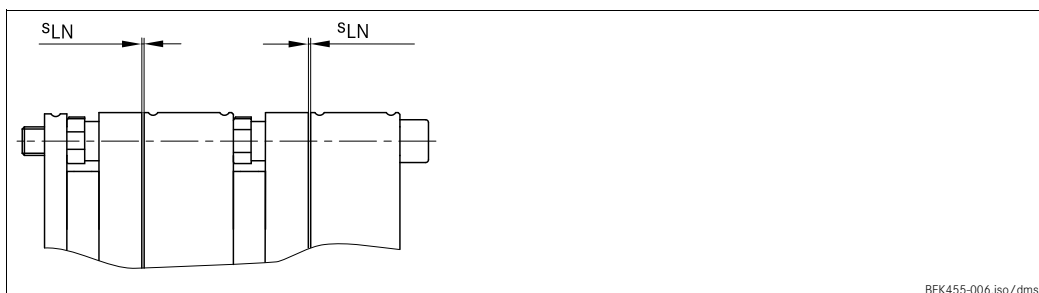
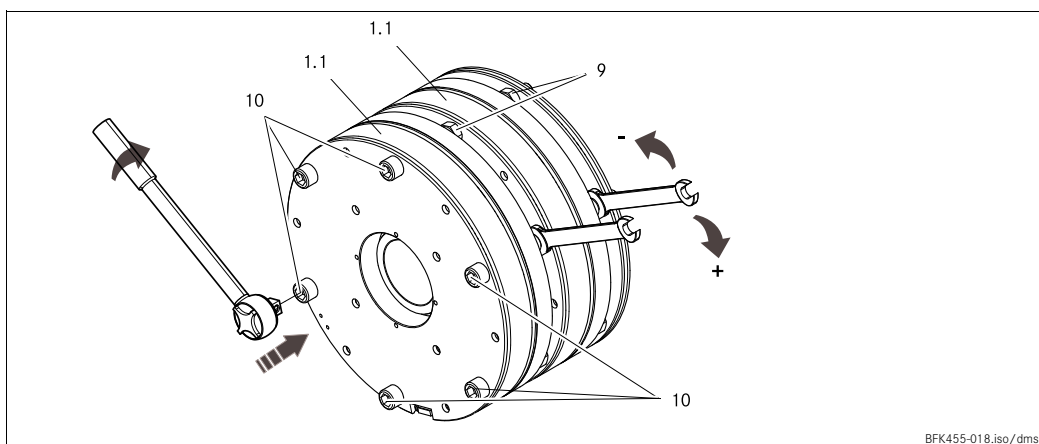

Fig. 10 Checking the air gap
Fig. 11 Adjusting the air gap during the initial installation
12. Check the air gap by means of a feeler gauge and correct it if necessary ($s_{LN} = 0.4 \pm 0.05\text{mm}$), according to Fig. 10 and Fig. 11.